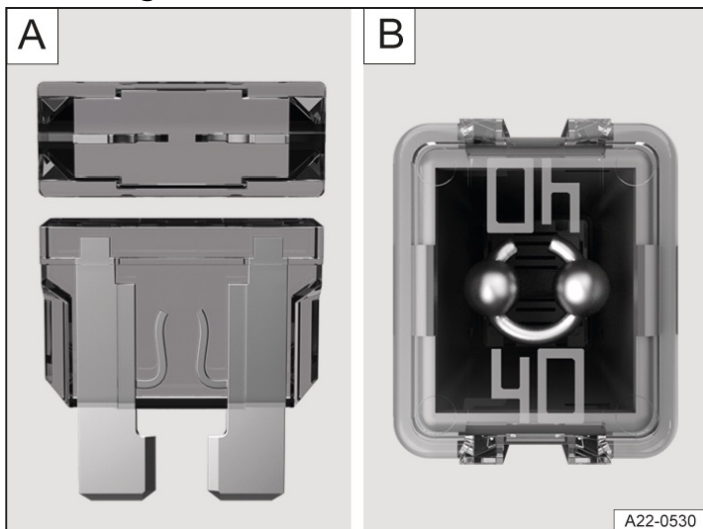

Fig. 1 Blown fuse (illustration).
- If a flat blade fuse (ATO®, MINI®) has blown, this can be recognised from the top and side through the transparent housing due to the melted metal strip → *Fig. 1 A*.
- If a cartridge fuse (JCASE®) has blown, this can be recognised from the top through the transparent housing due to the melted metal strip → *Fig. 1 B*.